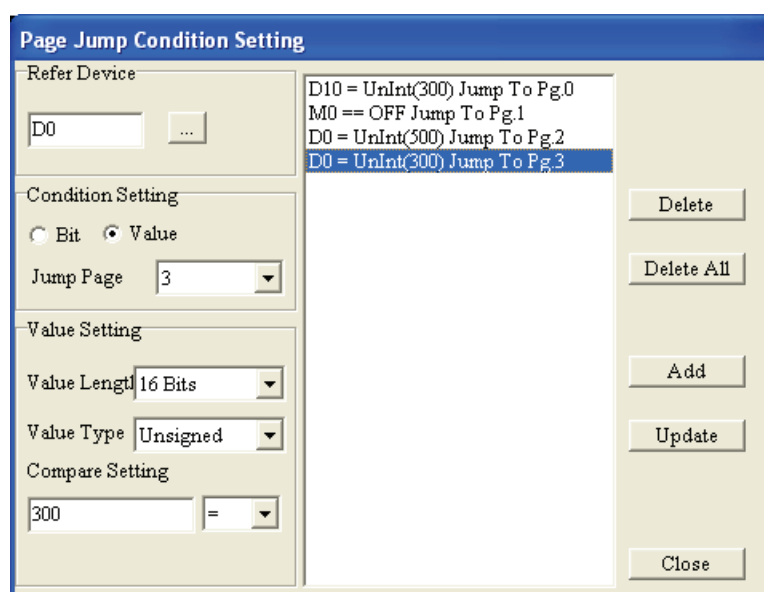

Figure 1-127
Step 6. After completing all settings, click **Add** button and the condition for jumping the page will display in the message window. When the users want to change the condition settings, pressing **Update** button can update the condition settings. Also, different conditions could be added and deleted in the message window simultaneously. If the users want to delete all conditions, pressing **Delete All** button can delete all conditions (Figure 1-127).